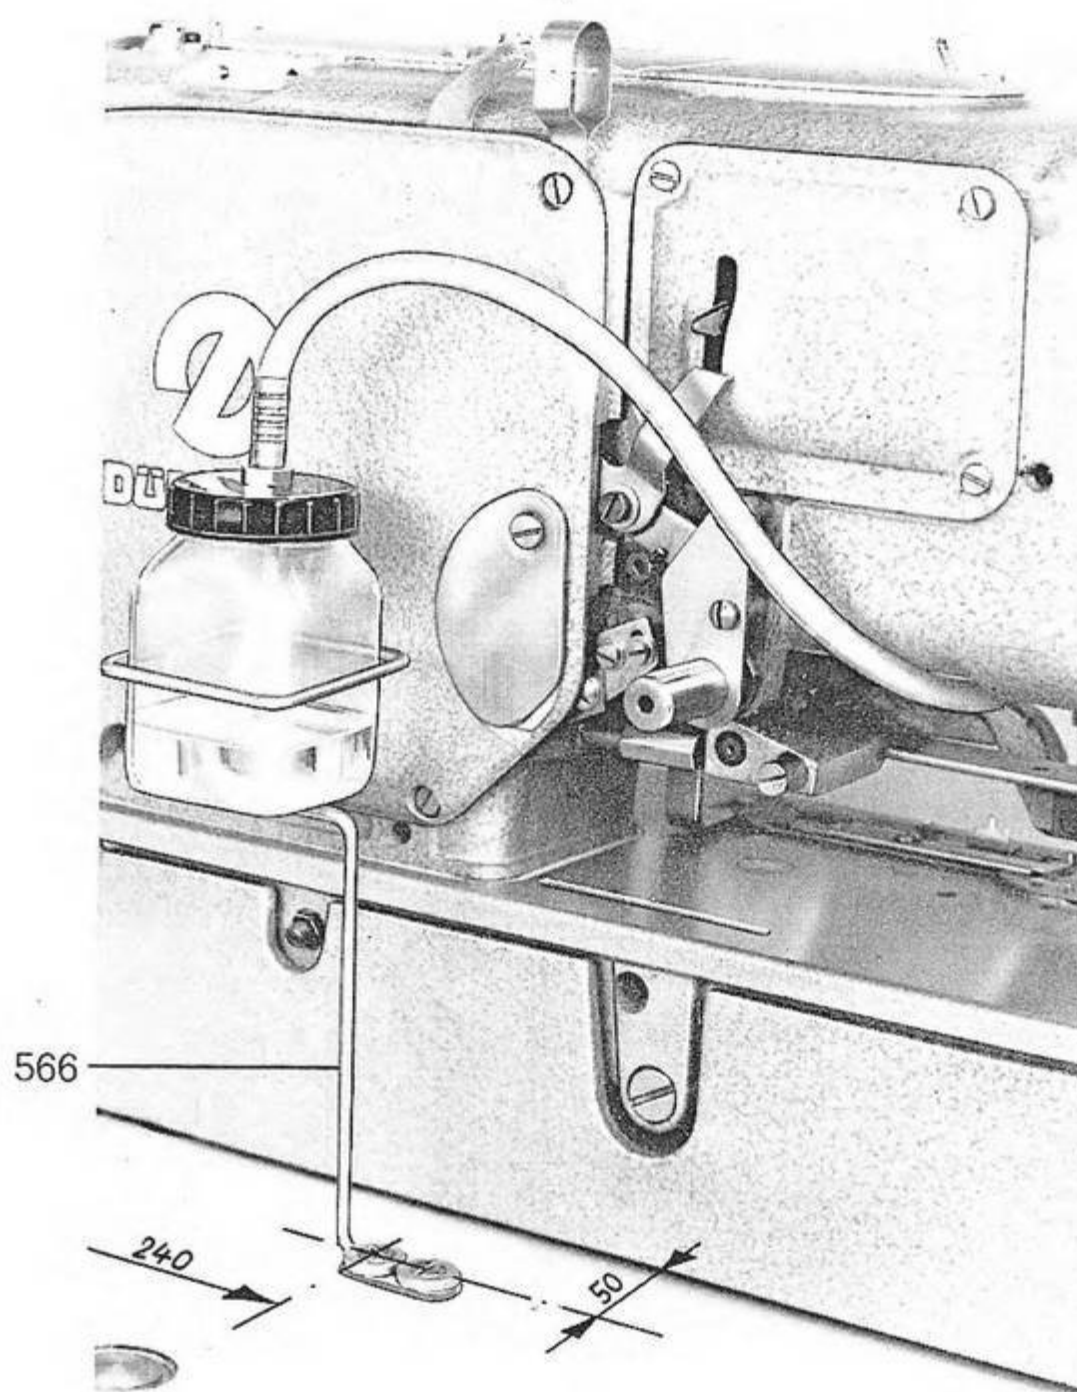

Fig. 142
1. Fasten the coil container holder 566 (fig. 142) on the table top as shown in fig. 142 — 50 mm from the base edge and 240 mm from the base rear edge.